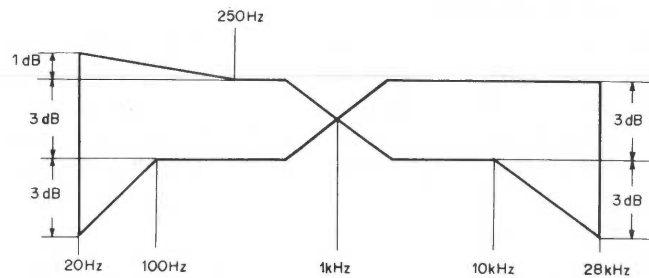

Fig. 8-3 REC/PB frequency response adjustment
4. Without changing the INPUT (LINE) level control, drop the input level by 20dB by attenuator, and record the 1kHz portion and all the other frequencies indicated in Fig. 8-3 onto the STD-502 test tape. Then set the MONITOR switch to the TAPE position, and check that the level differences between the 1kHz playback output level and the playback output levels at all other frequencies satisfy the specified ratings. If the output levels fail to satisfy the specifications, adjust L905 (L ch) and L906 (R ch).